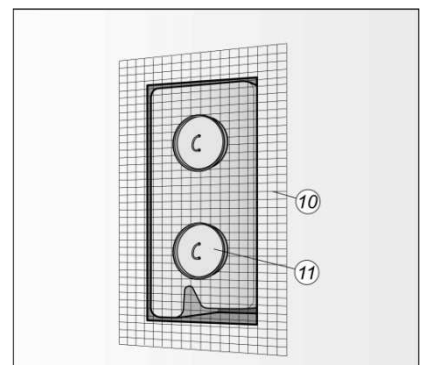

Abb. 8
- Insert the Protective Plug (14) from the outside into the mounting box with an excess length, to ensure that the holes for the ventilation pipes will be kept free from any plaster and have the correct diameter
- Attach the plaster fabric (13) over the mounting box and the wall (if necessary also onto the facade insulation)
- Finish the external plastering. (Abb. 8)